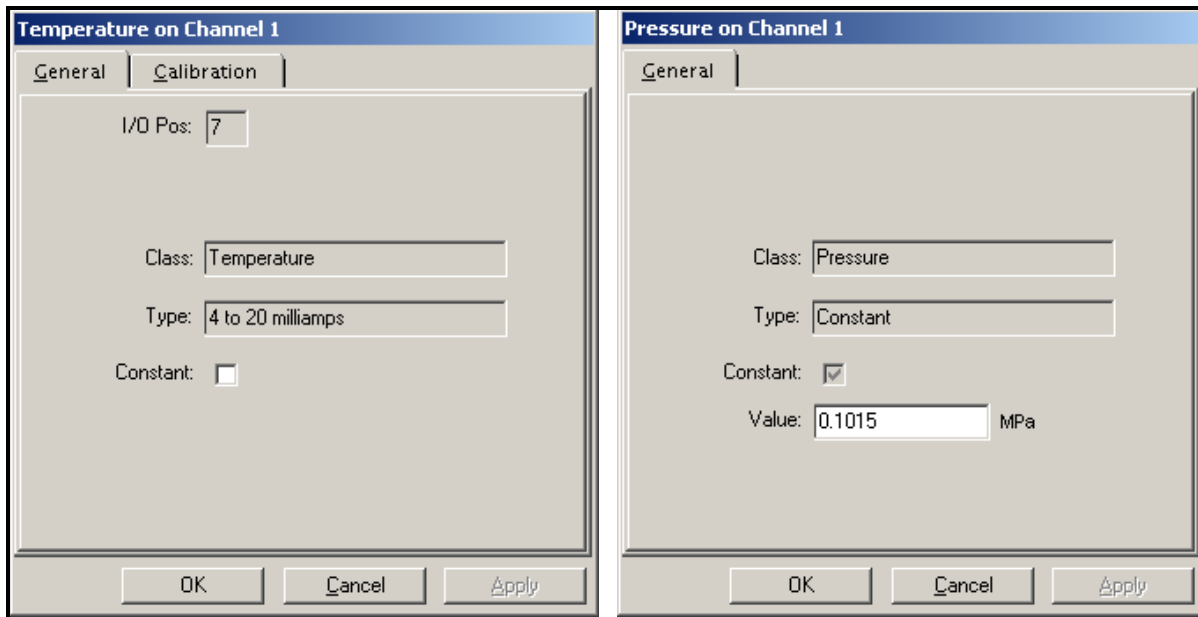

Figure 34: *PanaView™* Temperature and Pressure (two separate displays)
3. Double click on the Temp or Pres option and the Temperature or Pressure display appears (see Figure 34 below).